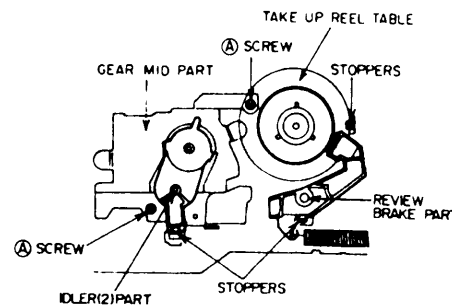

Fig. 1.
- 1: Remove the CASSETTE LOAD BLK & LOADING ARM BLK. (Refer to REMOVAL OF THE EJECTOR BLK.) Release the stopper of the IDLER PART (2) as shown in Fig. 1, then remove it.